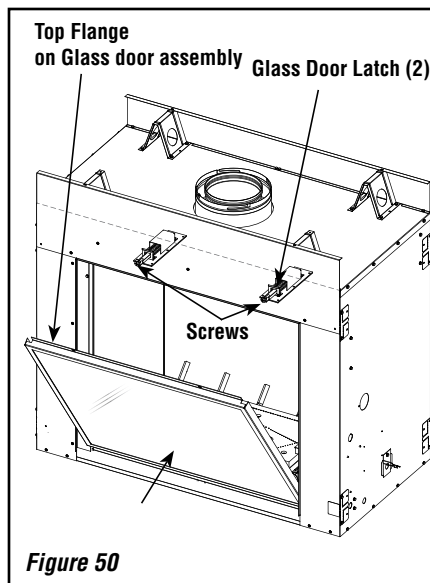

Figure 50
- b) Position the door in front of the firebox opening, with the top of the door held away from the fireplace (see **Figure 50**).
- d) Using a #3 Phillips screwdriver, fasten the door frame to the door latches with the two (2) latch screws. The latches should pull forward to engage the door frame.
- a) See **Figure 50**. While holding the top of the glass door frame in place, use a #3 Phillips screwdriver to remove the two (2) screws securing the door frame to the two (2) door latches.
- b) Carefully tilt the top of the glass door frame away from the unit (as shown in **Figure 50**), and then lift the door assembly up and out of the lower track.